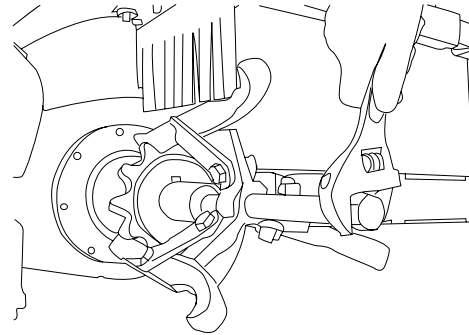

Figure 19
3. Lightly tap the sprocket with a hammer or use a puller to remove the sprocket from the shaft [Figure 19].